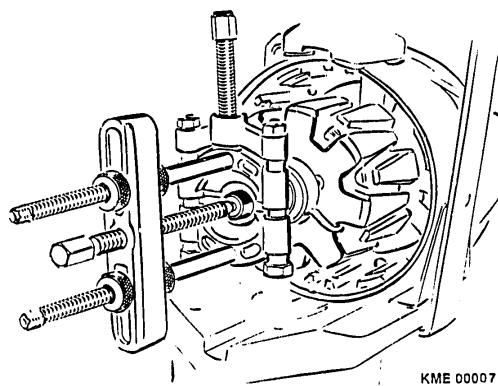

Figure 24 Collector Ring Removal
3. With a universal bearing puller, remove each collector ring one at a time from the rotor. (Figure 24)